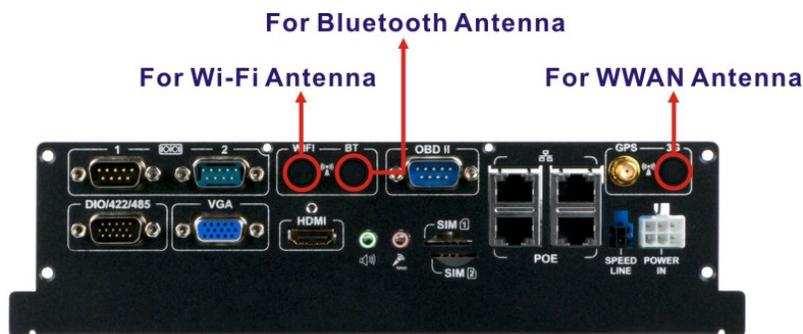

Figure 3-10: Knockouts for External Antennas
- Step 2:** Remove the knockout for antenna installation. The knockouts are located on the rear panel of the IVS-300 as shown in **Figure 3-10**.